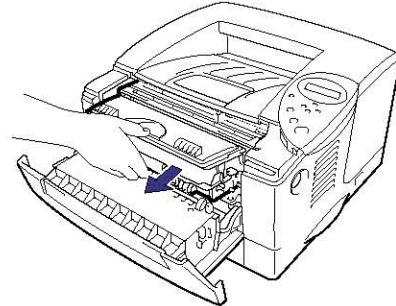

Fig. 5-4
- (1) Press the cover release button and then open the front cover.
- (2) Pull out the drum unit assembly. (Fig.5-4)